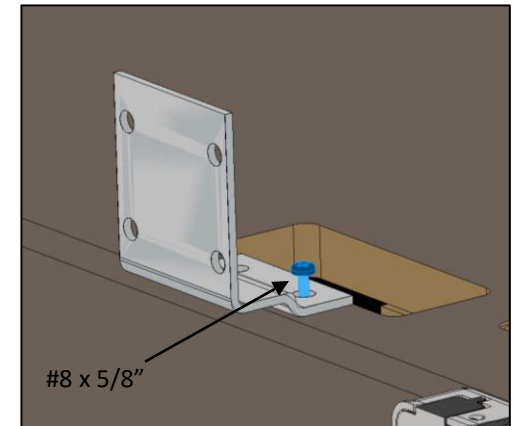

Figure 3
2. Secure using $\frac{1}{4}$ -20 x $\frac{1}{2}$ " bolts and the threaded inserts (Figure 3)